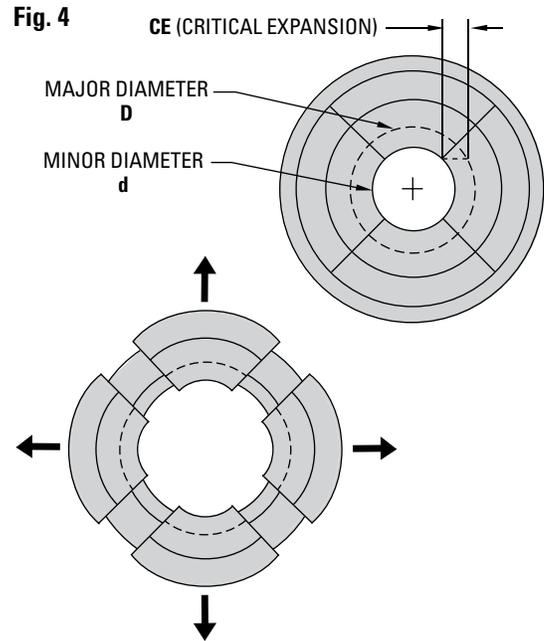

Fig. 4
The critical expansion (CE) needed to release the undercut is not the radial difference between major diameter (D) and minor diameter (d). For a typical four segment Expandable Cavity, the formula for calculating critical expansion is (see Fig. 4):